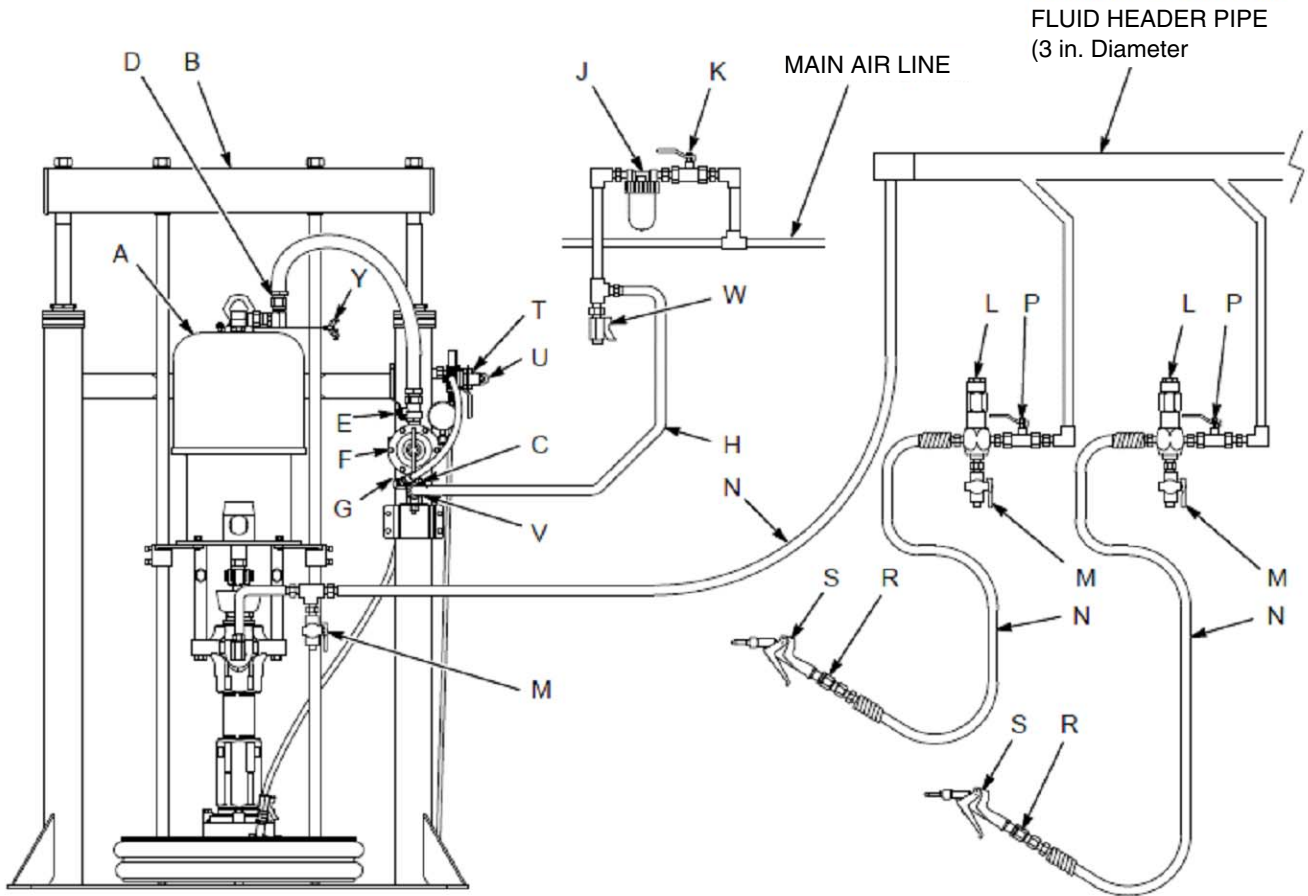
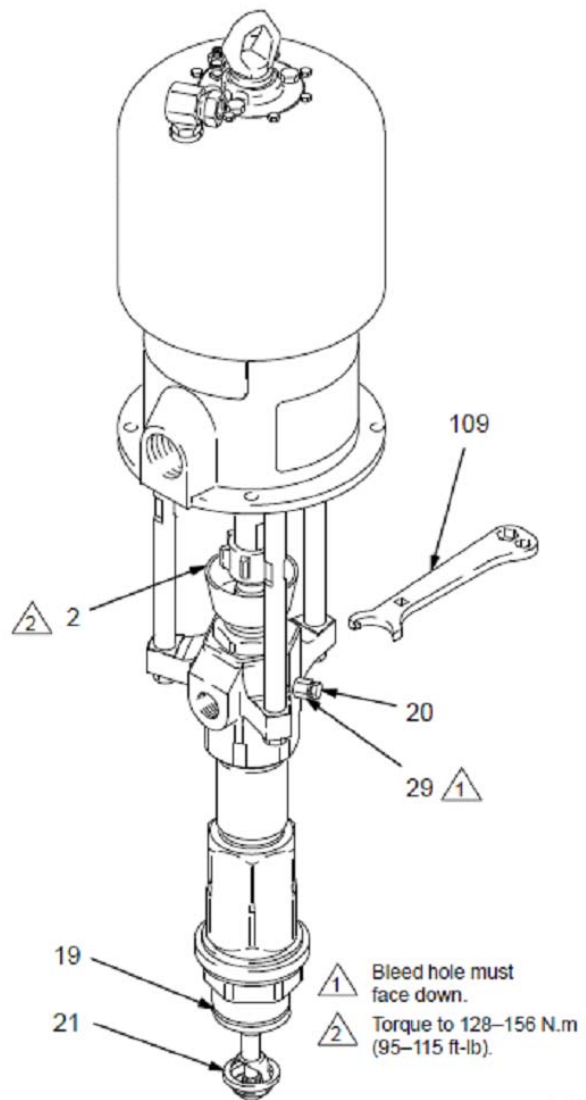

Fig.3
Fig.5
The Typical Installations shown in Figs. 3 and 4 are only guides for selecting and installing system components and accessories. Contact your Graco distributor for assistance in designing a system to suit your particular needs.
Mount the pump (A) to suit the type of installation planned. Fig. 3 on page 8 illustrates a ram-mounted pump in a multi-gun header system. Pump dimensions and the mounting hole layout are shown on page 49.
Install the following accessories in the order shown in Fig. 3, using adapters as necessary:
Install the following accessories in the positions shown in Figs. 3 and 4, using adapters as necessary:
- Install a **fluid shutoff valve (P)** at each gun/valve drop, to isolate the gun/valve and fluid accessories for servicing.
- Install a **fluid drain valve (M)** near the pump fluid outlet, and at each gun/valve station. The drain valves are required in your system to relieve fluid pressure in the displacement pump, hose and gun/valve (see the **WARNING** at left). Drain valves at the gun/valve stations may be mounted in the base of a **fluid regulator (L)**, using an adapter.
- **A fluid regulator (L)** controls fluid pressure to the gun/valve, and dampens pressure surges.
- **A gun or dispense valve (S)** dispenses the fluid. The gun shown in Fig. 3 is a high pressure dispensing gun for highly viscous fluids.
- **A gun/valve swivel (R)** allows freer gun/valve movement
Before starting, fill the packing nut (2) 1/3 full with Graco Throat Seal Liquid (TSL) or compatible solvent. See Fig. 5.
2. See Fig. 3. Close the air regulator (F).
4. Hold a metal part of the gun/valve (S) firmly to the side of a grounded metal pail and hold the trigger open.
8. If the pump fails to prime properly, open the bleeder valve plug (20) slightly. Use the bleed hole, on the underside of the valve body (29), as a priming valve until the fluid appears at the hole. See Fig. 5. Close the plug.
- NOTE:** When changing fluid containers with the hose and gun/valve already primed, open the bleeder valve plug (20), to help prime the pump and vent air before it enters the hose. Close the plug when all air is eliminated.
10. Use the air regulator (F) to control the pump speed and the fluid pressure. Always use the lowest air pressure necessary to get the desired results. Higher pressures cause premature tip/nozzle and pump wear.